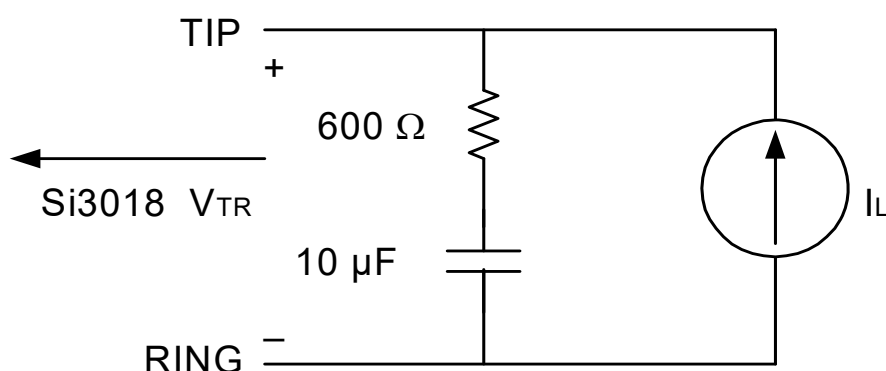

Figure 26. Phone Line Termination Circuit
&T3	Initiate ITU-T V.54 (ANALOOP) test. Modem mode set by &H. Test loop is through the DSP (ISModem), DAA interface section (ISModem), ISOcap interface (Si3018/10), and analog hybrid circuit (Si3018/10). ISModem echoes data from TX pin (Hardware Interface Register 0 in parallel or SPI mode) back to RX pin (Register 0 in parallel or SPI mode). Phone line termination required as in Figure 26. In order to test only the ISOcap link operation, the hybrid and AFE codec can be removed from the test loop by setting U62 [1] (DL) = 1.